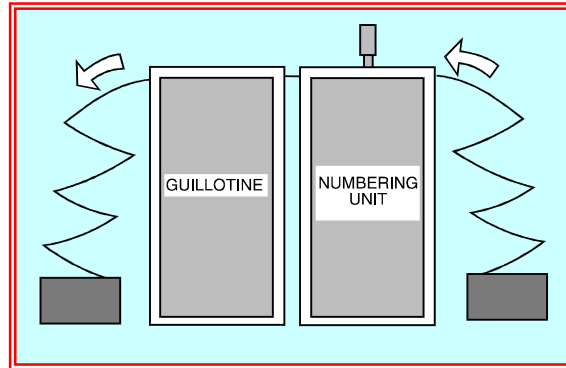

Fig 3.9 No-Cut Operation with On-Line Numbering Unit
- If side trimming is required, open the protective cover and slide the side trimmer(s) so that the trimmer block(s) engage with the tractor unit(s), (position 3 as shown on Fig 3.9). Align the yellow cut mark with the side carrier cut line.
- Note that when used in this mode, the guillotine controls the paper feed. Having set up the numbering unit with the guillotine, as shown in Fig 3.9 and loaded the paper on the guillotine, proceed as follows.